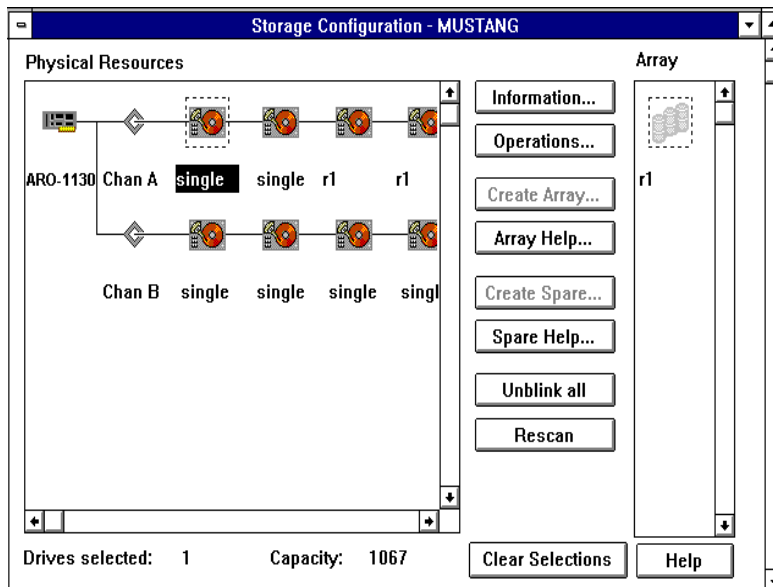

Figure 8-2. Storage Configuration Window
- 1 Start Adaptec CI/O Array Management Software and open the Storage Configuration window, as described in *Starting the Program* on page 8-2. This window looks similar to the one shown in Figure 8-2.